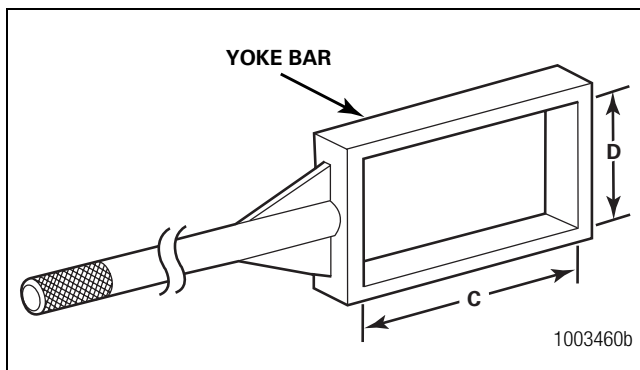

Figure 10.3
2. Calculate dimensions C and D of the yoke bar by adding 0.125-0.250-inch to dimensions A and B of the yoke. Figure 10.3.
3. To make the box section, cut and weld one-inch x two-inch mild steel square stock according to dimensions C and D. Figure 10.3.
4. Cut a four-foot x 1.25-inch piece of mild steel round stock to make the yoke bar handle. Center weld this piece to the box section. Figure 10.3.
- **To increase yoke bar rigidity:** Weld two angle pieces onto the handle. Figure 10.3.